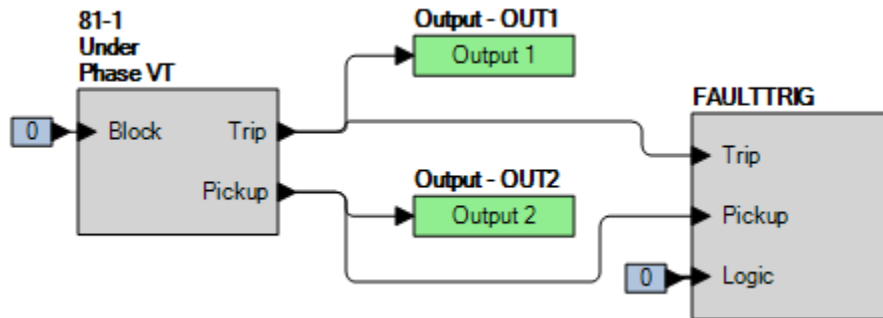

Figure 61-2. BESTlogic*Plus* Settings (Underfrequency)
Step 2: Use BESTCOMS*Plus* to configure the BESTlogic*Plus* programmable logic shown in Figure 61-2.
- Step 4: Prepare to monitor the 81-1 function operation. Operation can be verified by monitoring OUT2 (see Figure 61-2).